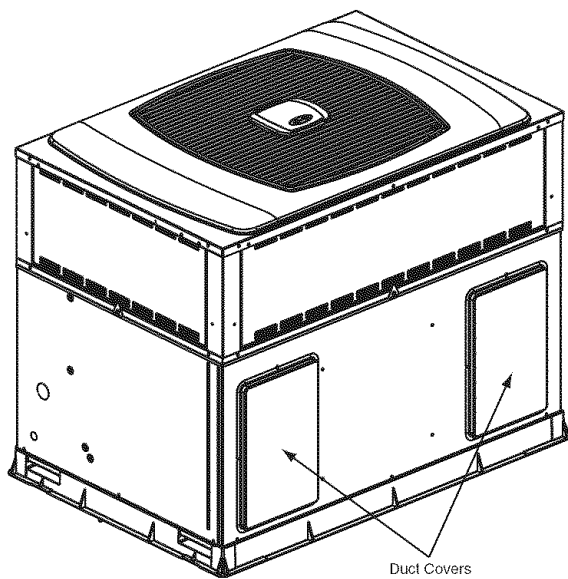

Fig. 11 - 50CR with Duct Covers On
4. Ensure the side duct covers are in place to block off the horizontal air openings (See Fig. 11).